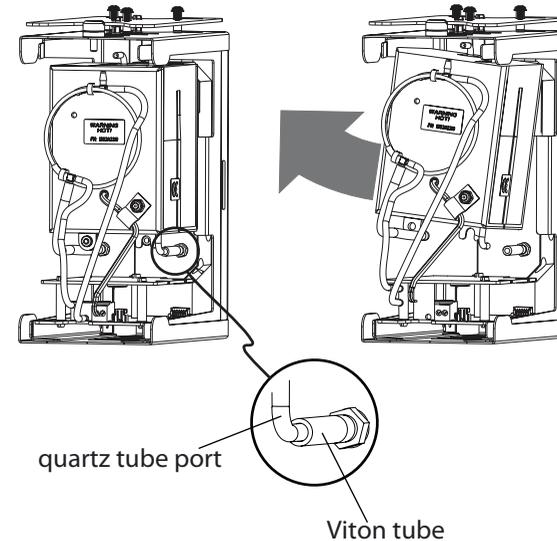

Figure 10: Disconnecting the lower Viton tube
7. Disconnect the lower Viton tube from the quartz tube port. (If necessary, swing the heater unit as shown in Figure 10.) Discard the old Viton tube.